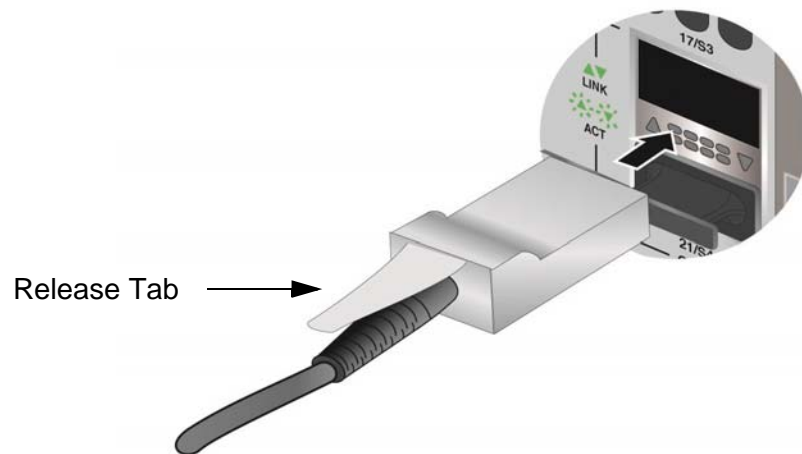

Figure 62. Sliding the AT-QSFPCU Cable into the Slot
2. Orient the connector on the AT-QSFPCU Cable with the release tab on top and slide it into the slot until it clicks into place. Refer to Figure 62 on page 105.